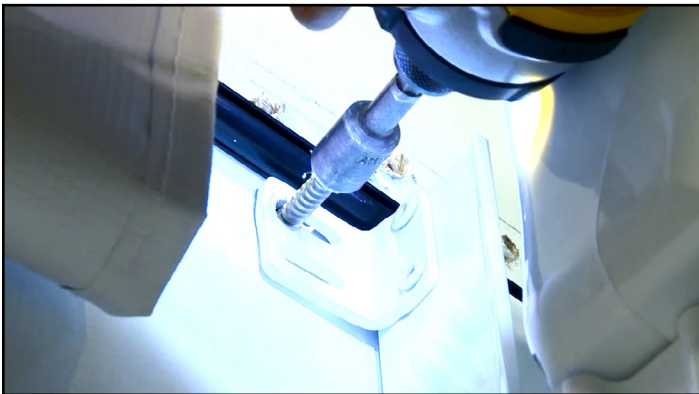

Fig.23
16. Place the drive support arm assembly directly under the awning rail so the top of the mount arm is touching the bottom of the rail. Secure the upper section of the drive mount arm to the unit with 2 of the provided #14 x 1 1/4" screws, aligned directly below the holes of the awning removed (**Fig.23**).